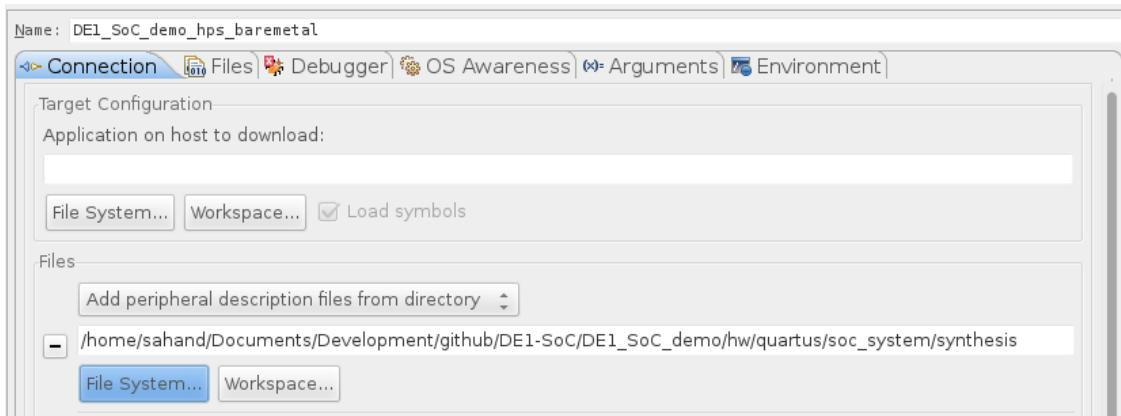

Figure 12-6. Debug Configuration "Files" Tab
- b. In 9.3.2, we configured our HPS to use some FPGA peripherals. We can instruct the debugger about this so it can show more detailed information when debugging. To do this, set the combobox to “Add peripheral description files from directory” and set it to the “DE1\_SoC\_demo/hw/quartus/soc\_system/synthesis” directory, as shown in Figure 12-6. This directory contains a file called “soc\_system\_hps\_0.hps.svd” which has information on all of the HPS’ peripherals which are in the FPGA fabric.